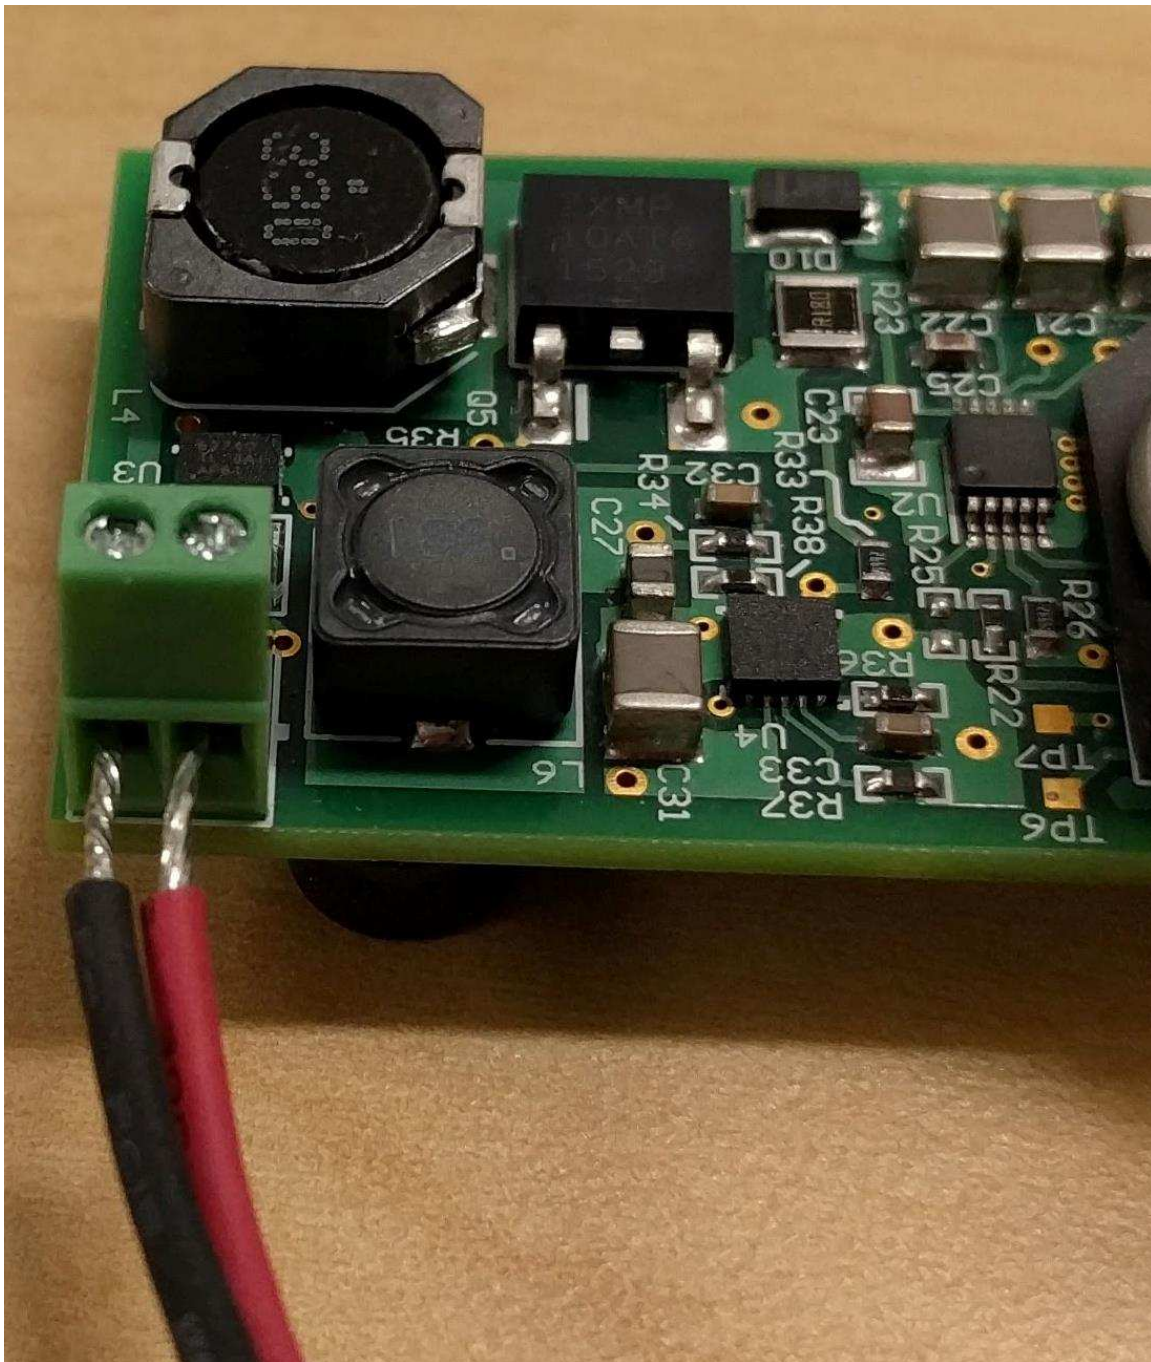

图 21. TIDA-01463 LED Output Connection on PCB
2. Connect the LED light to the output terminal, J7. If unsure about the polarity of the terminals, check the bottom of the PCB. The right terminal (+) is connected to the trace, and the left terminal (-) is connected to the ground plane (see 图 21).